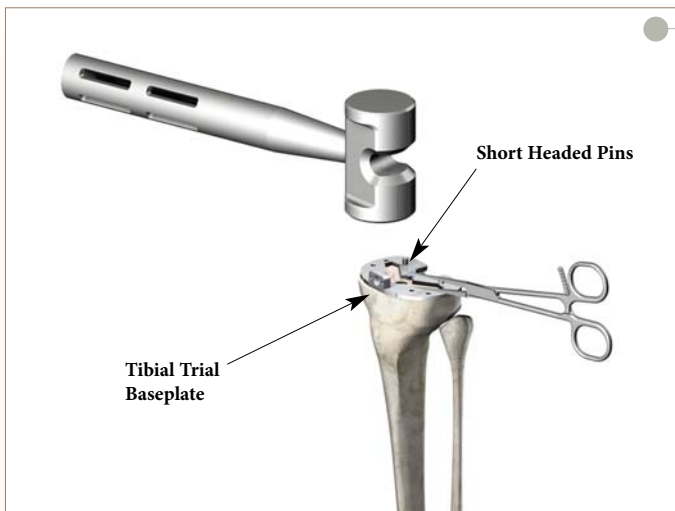

Figure 65
- ▶ Pin the baseplate to the tibial plateau by placing two short, headed fixation pins through a medial and lateral hole in the baseplate (**Figure 65**). Pin hole selection is not critical; however, if the anterior holes are used and the pins are fully seated, the Tibial Bearing Insert Trial may be re-assembled to the pinned baseplate for any subsequent trial reductions.